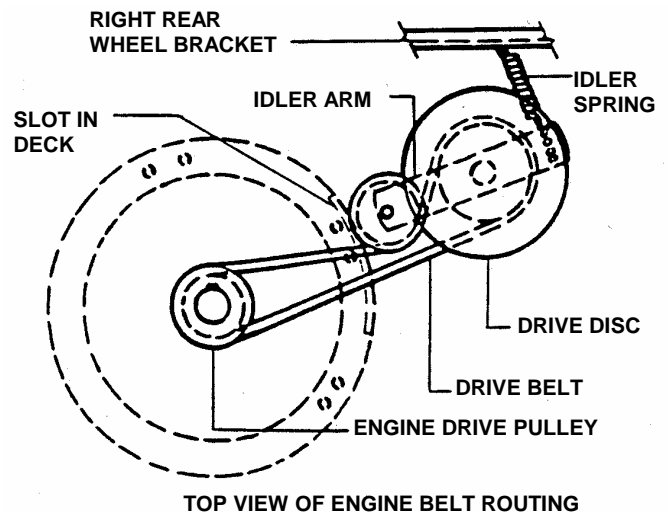

FIGURE 4.16
2. Unhook the idler spring from the right rear wheel bracket. See Figures 4.16.